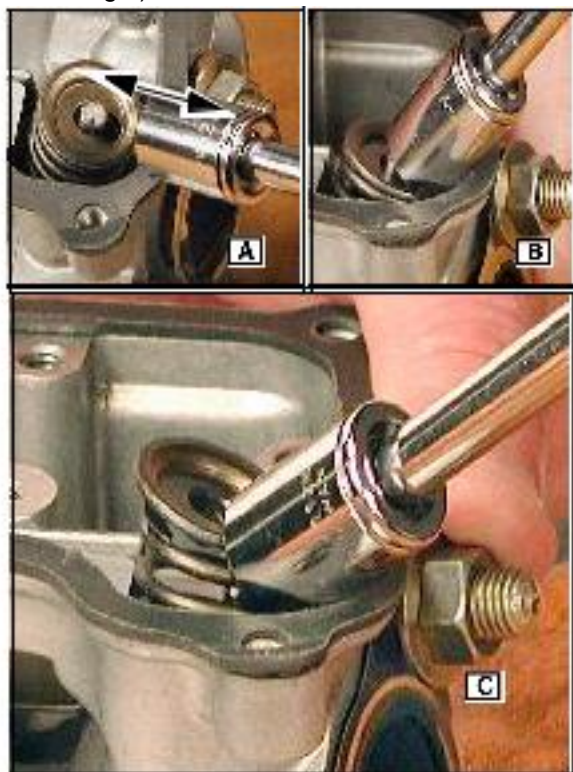

Fig. 9
With a small socket mounted on a drive handle, push the valve retainer down from the direction of the open slot as shown in ([A] Fig. 9).
4. Follow the sequence shown ([B & C] Fig.9).